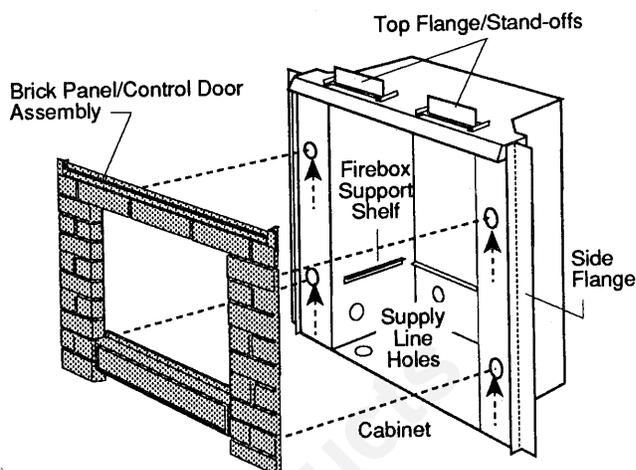

Figure 9. Remove the Brick Panels/Control Door and bend the top and side flanges out.
Step 1. The Cabinet shell is completely assembled, however, the cast iron brick panels must be removed prior to installing the firebox. Disengage the Brick Panels/Control Door as a unit by lifting them up and away from the Cabinet. Fig. 9.
Step 2. Bend the four Cabinet stand-offs 90°. Fig. 9.